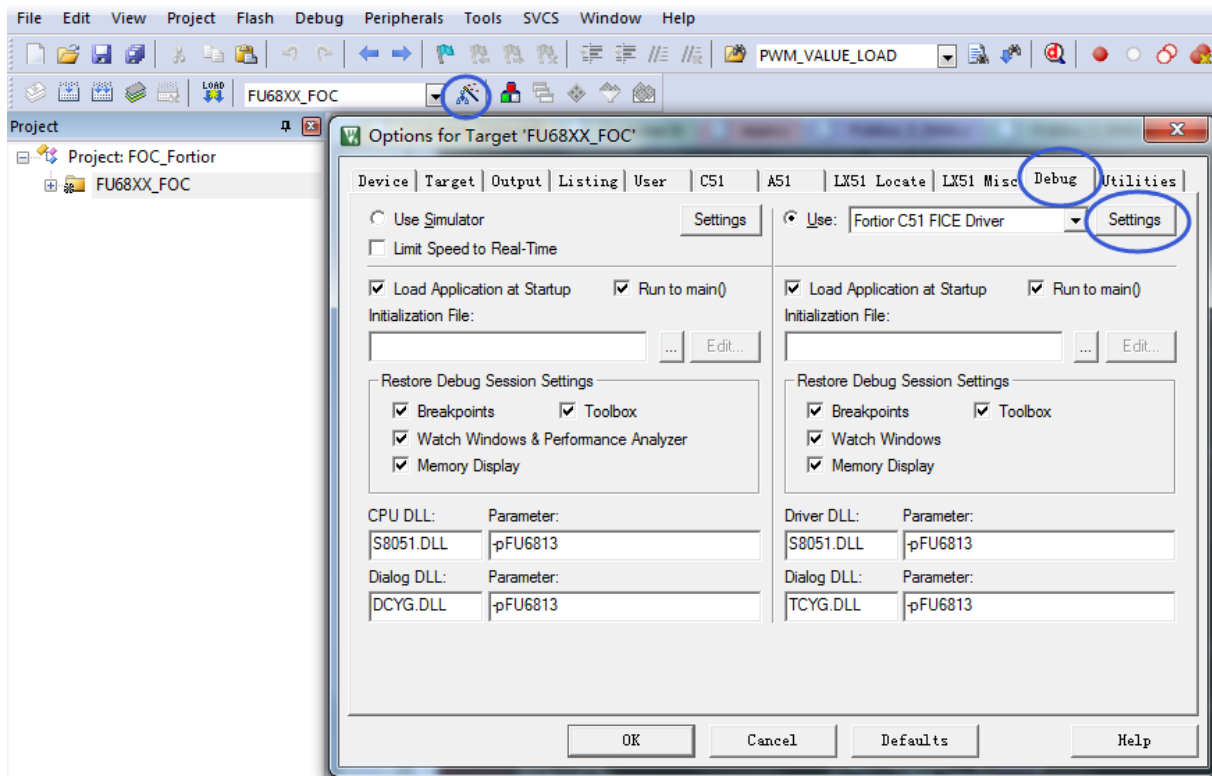

Figure 35-1 Code Protection Configurations
1. Start 8051 IDE, enter Target Options and select Debug tab. As shown in Figure 35-1, click Settings to proceed with the setting;